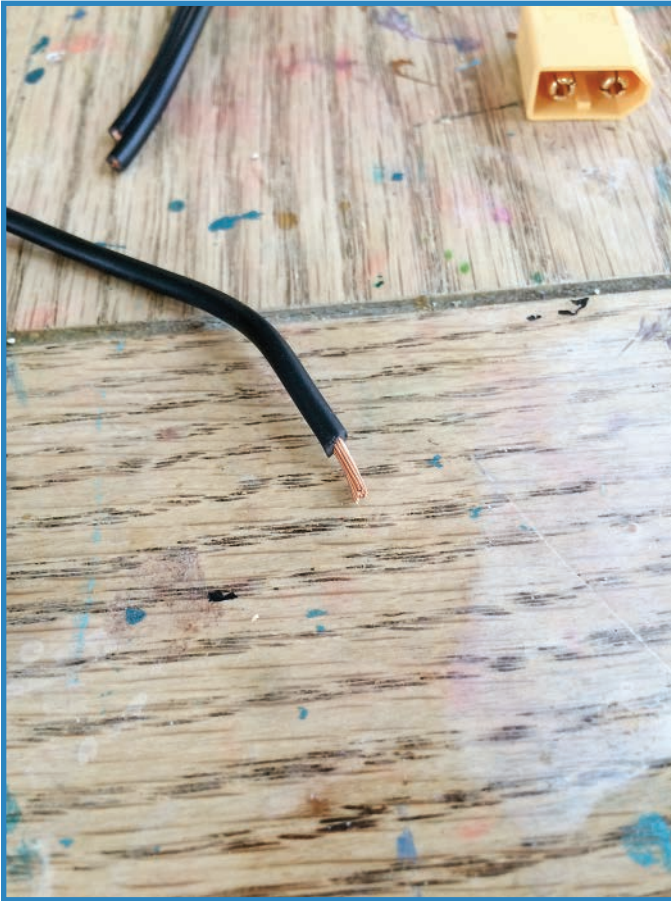

FIGURE 10.13 You'll need a black and red wire for each component.
- 1. Cut 16-gauge wires approximately five inches in length.** You'll want one red and one black wire for each component to be powered—certainly one per motor! For each wire, strip off a half-inch of insulation from one end and a quarter-inch from the other end. Figure 10.13 shows how it should look.